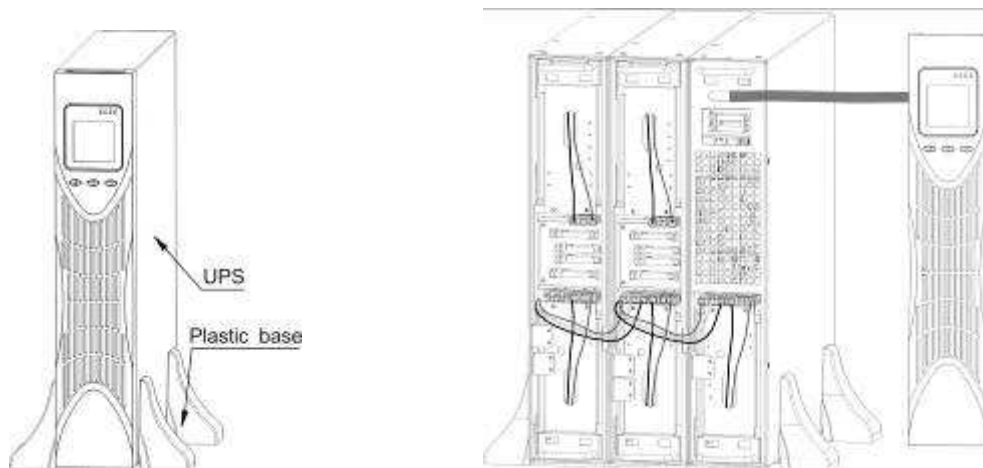

Figure16 The installation for UPS and battery box
2. The installation between UPS and EBPS can be referred to Fig.16
1. Install the base, then place the RT UPS on the base one by one as Fig.16 shows.